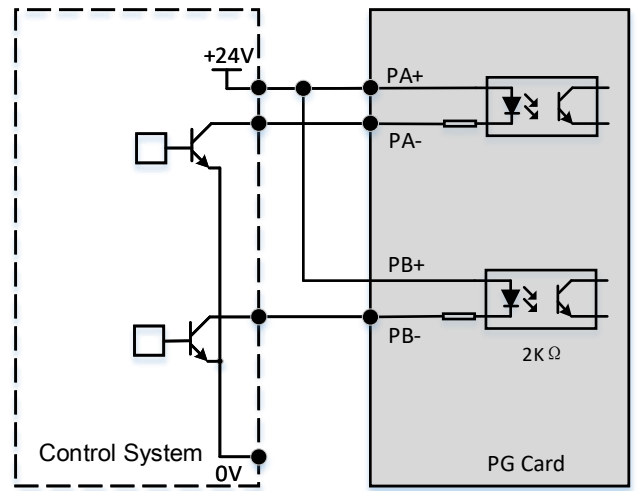

Figure 6 NPN pulse given wiring diagram
- 3、 NPN pulse, when using external power supply, connect PA-/PB-, PA+/PB+ connect to 24V, and remove J12, J13 jumper, application PLC, as shown in **Figure 6**.